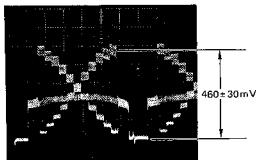

Fig. 5-9
- Adjust data by ARROW keys so that signal level becomes 460 ± 30 mV as shown in Fig. 5-9.